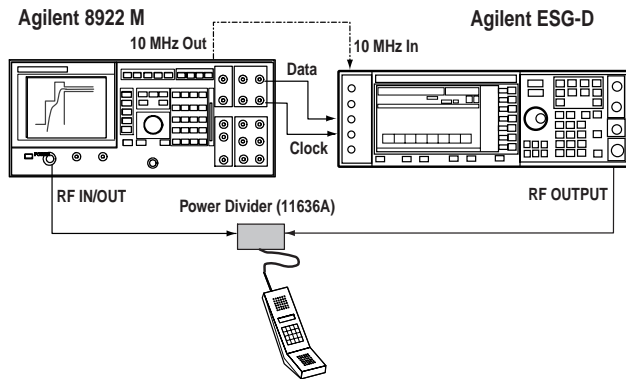

Figure 16. Diagram of set-up
1. Connect the 8922M, ESG-D and the mobile to be tested, as shown in Figure 16.